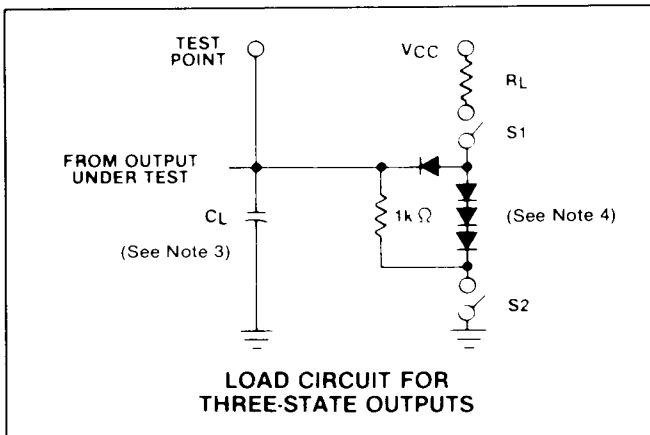

FIGURE 10
- Standard TTL load circuit used, see Figure 10 (S1 and S2 closed)